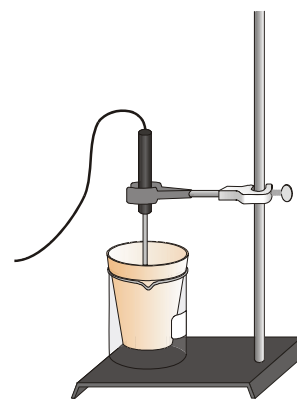

Figure 1
In the Preliminary Activity, you will gain experience using a Temperature Probe and a calorimeter as you determine the enthalpy change as a hydrochloric acid solution is neutralized by a solution of sodium hydroxide. You will use a Styrofoam cup nested in a beaker as a calorimeter, as shown in Figure 1. For purposes of this experiment, you may assume that the heat lost to the calorimeter and the surrounding air is negligible. Hydrochloric acid will be the limiting reactant in this experiment, and you will accordingly be determining the enthalpy, ΔH , of neutralization of the acid. Selecting a limiting reactant helps ensure that the temperature measurements and subsequent calculations are as precise as possible. Hydrogen ions from the HCl react with hydroxide ions from the NaOH in a one-to-one ratio to produce water in the overall reaction:
3. Place a Styrofoam cup into a 400 mL beaker as shown in Figure 1. Measure out 50.0 mL of ~1.00 M HCl into the Styrofoam cup. Record the precise concentration of the HCl solution. **CAUTION:** Handle the hydrochloric acid with care. It can cause painful burns if it comes in contact with the skin.
4. Use a utility clamp to suspend a Temperature Probe from a ring stand as shown in Figure 1. Lower the Temperature Probe into the solution. **Note:** It may take up to 15 seconds for the Temperature Probe to equilibrate at the temperature of the HCl solution.